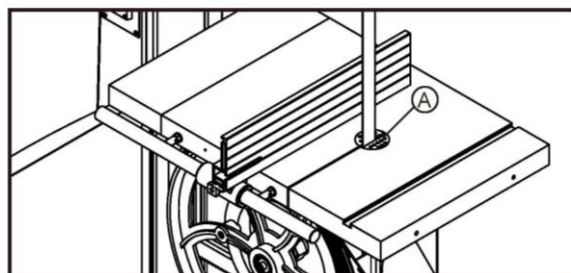

Fig.4.4.1
- To mount blade first remove the table insert (A of FIG.4.4.1)